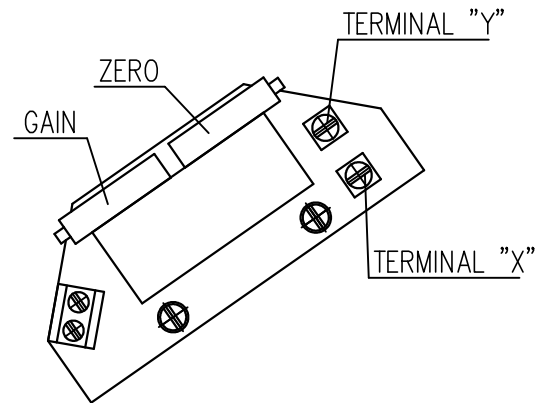

Fig.5
##### 4.4.1 EPV – the 2-wire version (Fig. 5)
- Adjust the resistive transmitter according to the previous chapter. The resistance is to be metered on the terminals X-Y (Fig. 5). The used transmitter resistance is 100  $\Omega$ .
- Turn the adjusting trimmer ZERO (Fig. 5) to adjust the output current signal rate measured on the terminals 81-82 to 4mA.
- Turn the adjusting trimmer GAIN (Fig. 5) to adjust the output current signal rate measured on the terminals 81-82 to 20mA.